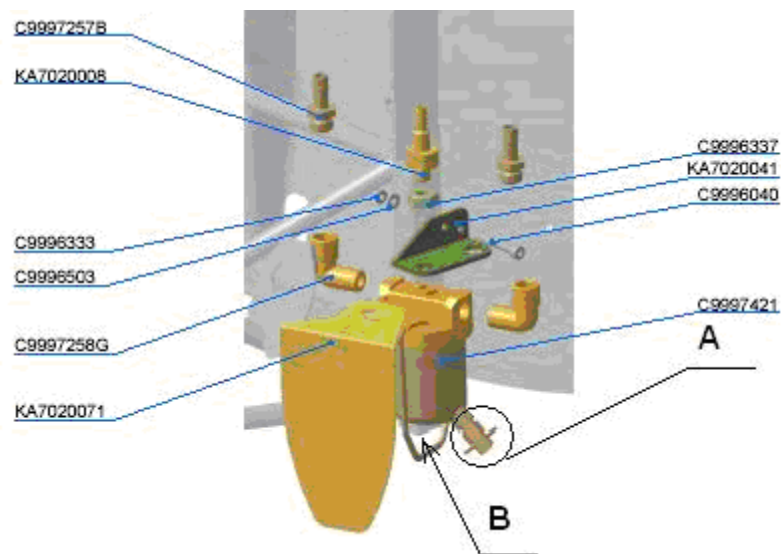

Fig. 6
2. For passing fuel through the lines and water in fuel by draining some fuel through the drain valve (item A, Fig. 6).
3. For foreign objects in the gascolator (Unscrew the nut (item B, Fig. 6), remove the bail and remove the body (ensure integrity of the O-ring that recovers its sizes upon some time needed to get it dry). Assemble the gascolator in reverse of the disassemble process).